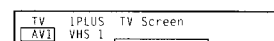

Fig. 43.
- 2 Select TV Screen (input source for the TV screen) or output (output source) with Δ + or ∇ - and press OK. One of the source items changes colour. (See Fig. 43)